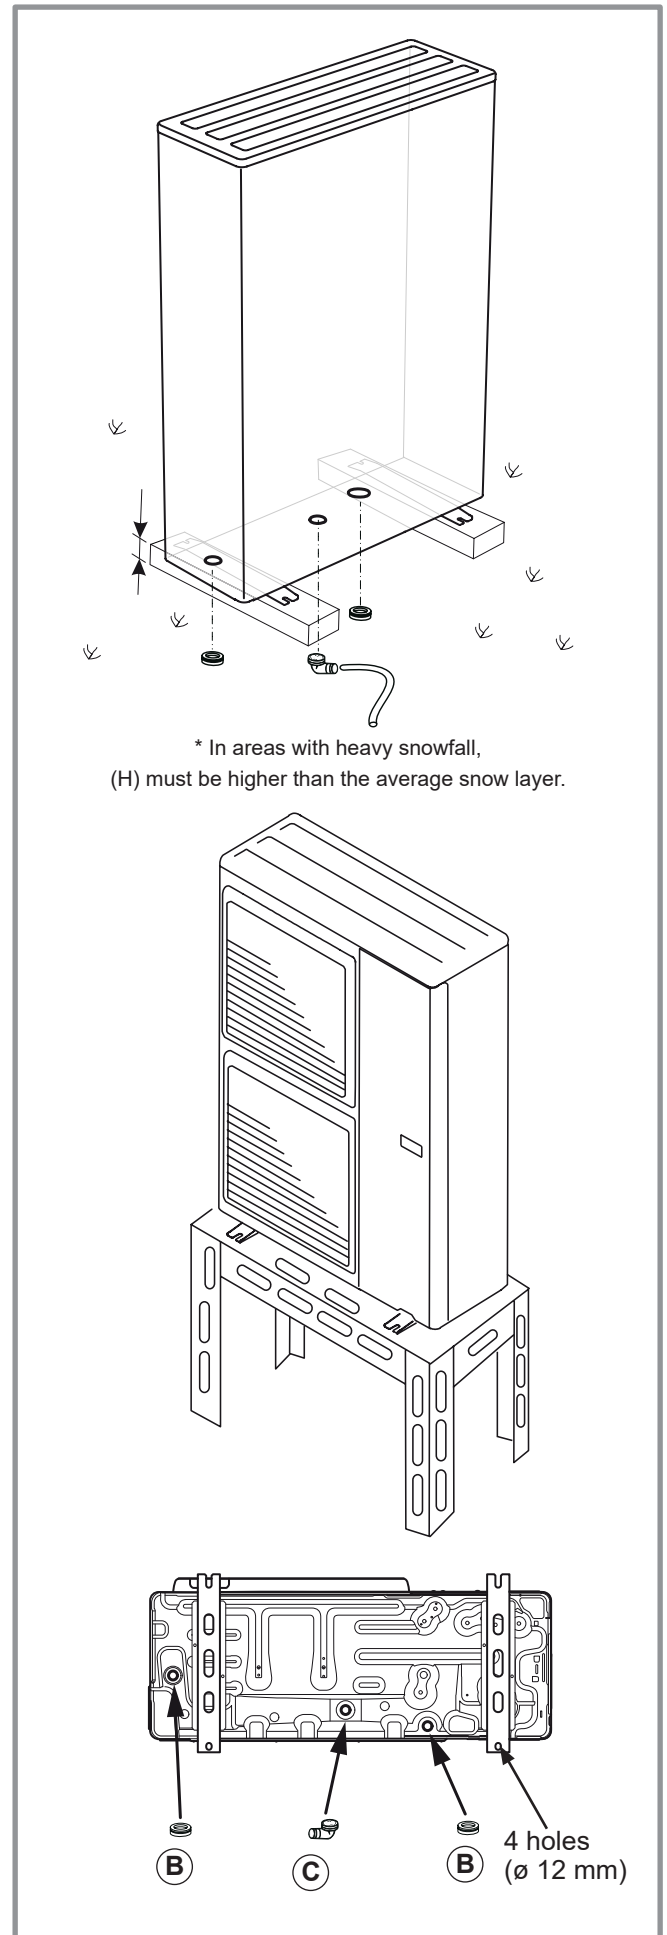

figure 14 - Installation of the outdoor unit evacuation of condensates
- Water may flow out of the outdoor unit when it is operating. Do not install the unit on a paved terrace; choose a well-drained location (e.g. gravel or sand). If installation is carried out in an area where the temperature stays below 0°C for long periods, check that the presence of ice does not present any danger. A drainage pipe can also be connected to the outdoor unit (figure 14).
The outdoor unit must be raised at least 50 mm above ground level. In areas prone to snow, this height should be increased but should not exceed 1.5 m (figure 14).
(see figure 14).